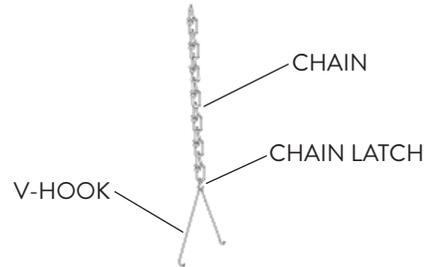

FIG. 6
- 1 The V-Hook Mount for the FSWA fixture consists of the V-Hook, Chain, and Chain Latch (Fig. 6).